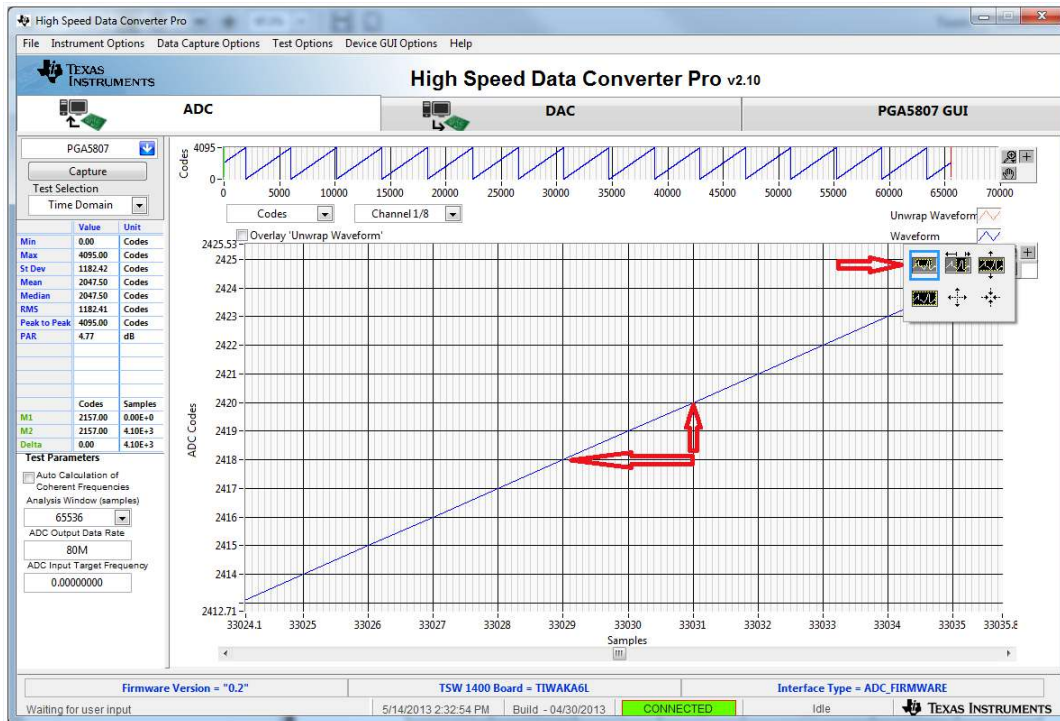

Figure 36. Zoom on RAMP Capture
- Zooming into the waveform, as shown in Figure 36, is recommended to ensure that the RAMP waveform increments 1 ADC code for each subsequent sample.